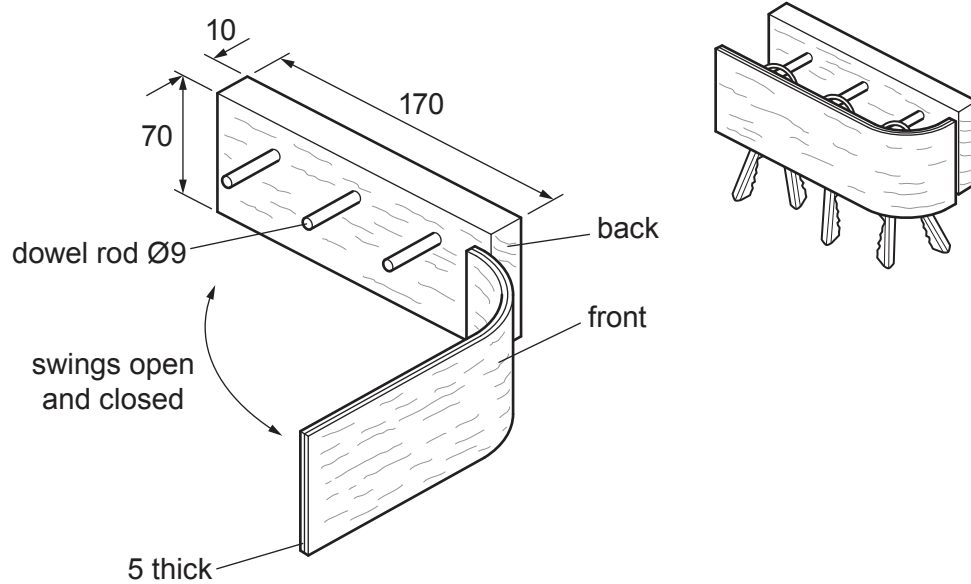

Fig. 11.1
- 11 Fig. 11.1 shows views of an incomplete design for a key rack made from hardwood. The front of the key rack can swing open and closed as shown.
- (c) Use sketches and notes to show how the front could be joined to the back and allowed to open and close as shown in Fig. 11.1.
(e) The key rack shown in Fig. 11.1 could be made completely from acrylic.